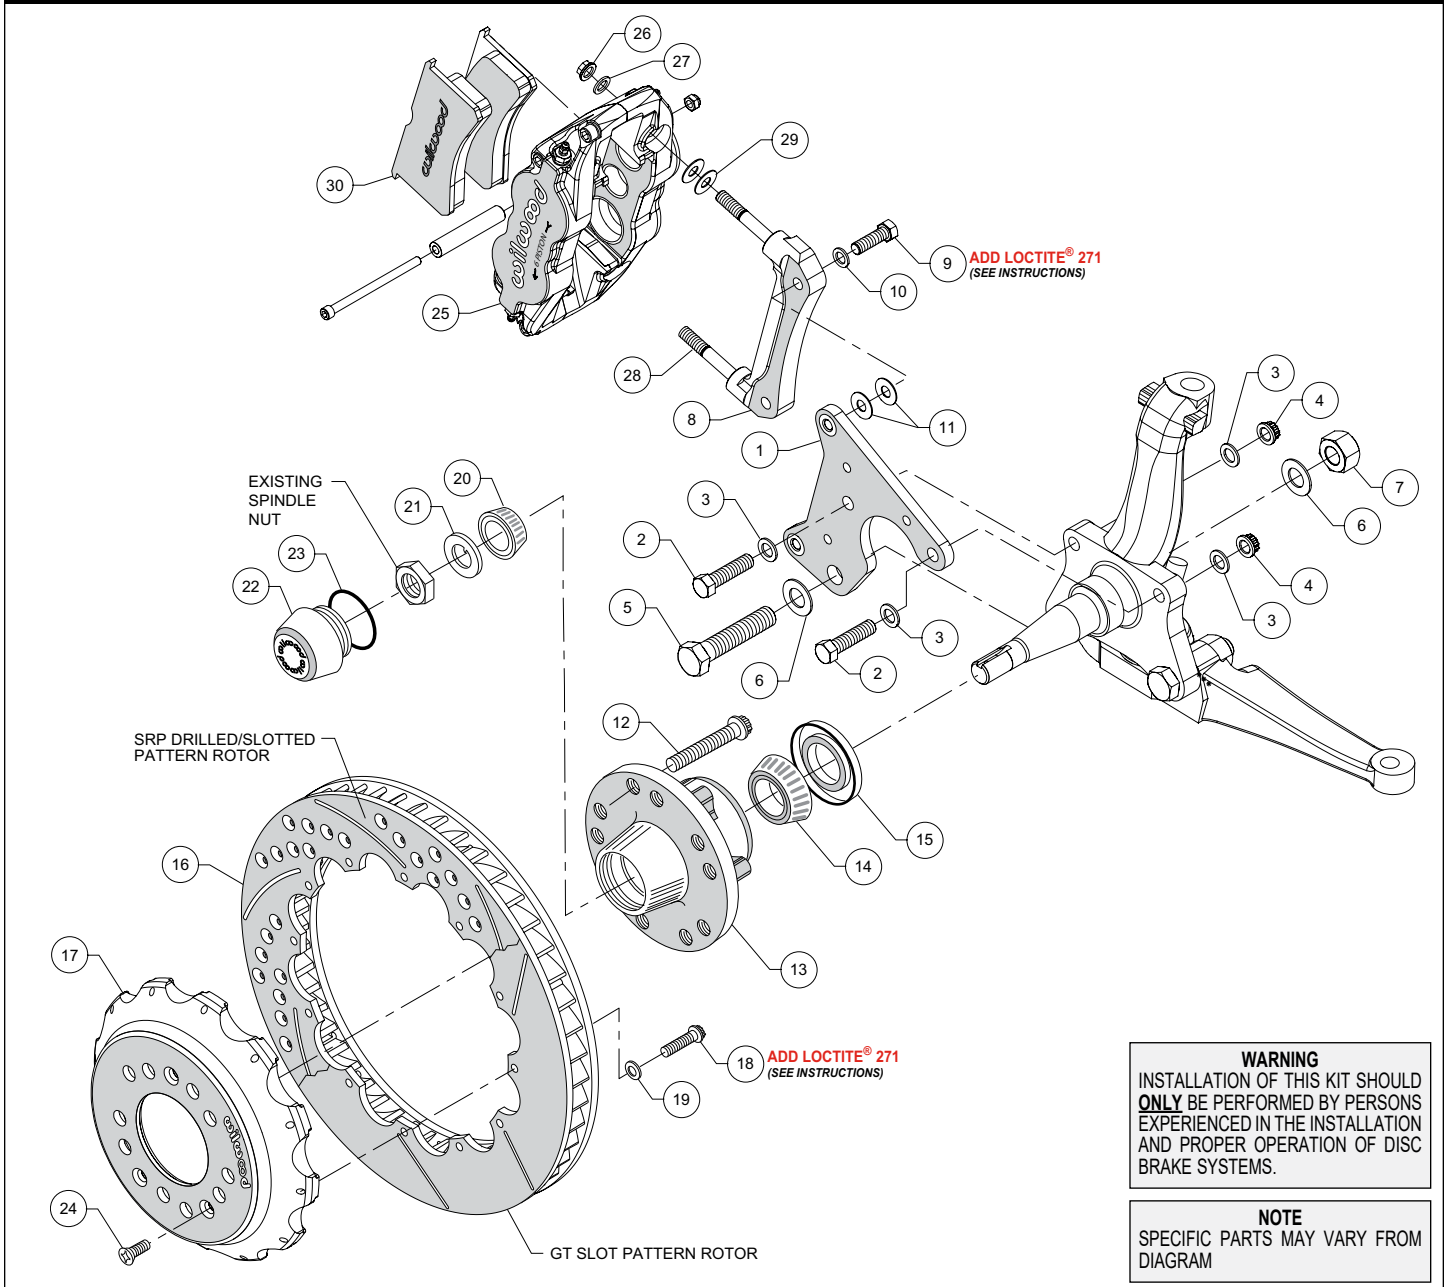

Figure 1. Typical Installation Configuration
NOTE: Numbers in parenthesis refer to the parts list and Figure 1 on the preceding pages.
- Orient the spindle bracket (1) as shown in Figure 1 and Photo 1, and install using bolts (2), washers (3), and nuts (4) on the top holes and bolt (5), washers (6), and nut (7) on the bottom hole, Figure 1 and Photo 1. Temporarily tighten the mounting bolts. Ensure that the flanged heads of the clinch nuts in the bracket are facing outboard, Photo 1. **NOTE:** The bracket must fit squarely against the mounting points on the spindle. Inspect for interference from casting irregularities, machining ridges, burrs, etc. Torque nuts (4) to 47 ft-lbs. and nut (7) to 140 ft-lbs.
- The caliper mount radial bracket (8) should initially be installed with clean, dry threads on the mounting bolts. Orient the bracket as shown in Figure 1, and Photo 2. Install onto the spindle bracket using bolts (9), and washers (10). Initially place two .035 thick shims (11) on each bolt between the radial and spindle brackets, Figure 1. Temporarily tighten the mounting bolts. Later, after the caliper alignment has been checked, the mount bolts will be secured using red *Loctite*® 271.
- Install wheel studs (12) into the hub (13), Photo 3. Torque to 77 ft-lb. **NOTE:** There are two five lug patterns in the hub (5 x 4.50 and 5 x 4.75). Ensure the correct hub stud pattern is being used to fit the wheel application.
- Pack the large inner bearing cone (14) with high temperature disc brake bearing grease (available from your local auto parts store) and install into the backside of the hub (13), Photo 4.
- Install the grease seal (15) by pressing into the backside of the hub (13), flush with the end of the hub, Photo 4.
- Orient the rotor (16) and the hat (17) as shown in Figure 1 and Photo 5. Attach rotor to hat using bolts (18) and washers (19). Apply red *Loctite*® 271 to the bolt threads and torque to 155 in-lb
- Screw dust cap (22) into hub (13), Photo 7. Friction created by the o-ring (23) on the dust cap keeps it from unscrewing. **NOTE:** *The O.D. of the existing OEM spindle washer may be larger than the I.D. of the dust cap not allowing it to seat against the hub face. Therefore, use the spindle washer (21) supplied with the kit instead of the OEM washer.*
- Slide the hat/rotor assembly (16/17) onto the hub (13) taking care to align the small countersunk holes in the hat with the small threaded holes in the hub. **NOTE:** *The hat must fit flush against the hub face or excessive rotor run out may result.* Install three flat head screws (24) through the small holes in the hat, Photo 7, and torque to 85 **in-lb**.
- NOTE:** *This kit contains distinct right and left hand calipers that must be mounted in a specific direction, as described below.* Initially place two .035" thick shims (29) on each stud (28) between the caliper and the bracket, as shown in Figure 1 and Photo 8. Mount the caliper (25) onto the bracket (8) using lock nuts (26) and washers (27), Figure 1. Ensure that the caliper is mounted so the largest pistons are at the rotor exit end of the caliper, in relation to the direction of rotor rotation. Temporarily tighten the lock nuts and view the rotor through the top opening of the caliper. The rotor should be centered in the caliper, Photo 9. If not, adjust by adding or subtracting shims (11) between the spindle bracket (1) and the caliper mount bracket (8). Always use the same amount of shims on each of the two mounting bolts. Once the caliper alignment is correct, remove the radial bracket mounting bolts one at a time, apply red Loctite® 271 to the threads, and torque to 40 ft-lb. **NOTE:** *The end of the bolts must be flush with, or protruding through, the head of the clinch nut.*